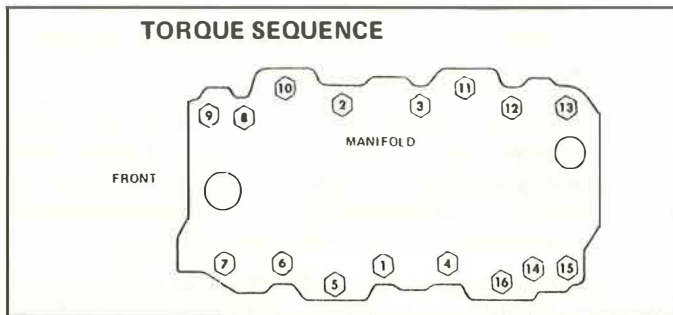

Fig. 2
22. Tighten bolts to 15 ft. lbs. and progress to 25 ft. lbs. in 5 ft. lbs. increments noting the torquing sequence. See Figure 2. Retighten valve covers.